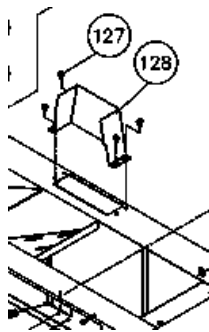

FIGURE 7: Pulley Cover
9. Install the pulley cover using four $\frac{1}{4}$ -20 x $\frac{1}{2}$ " bolts through the cover and into the base. Shown in Figure 7.